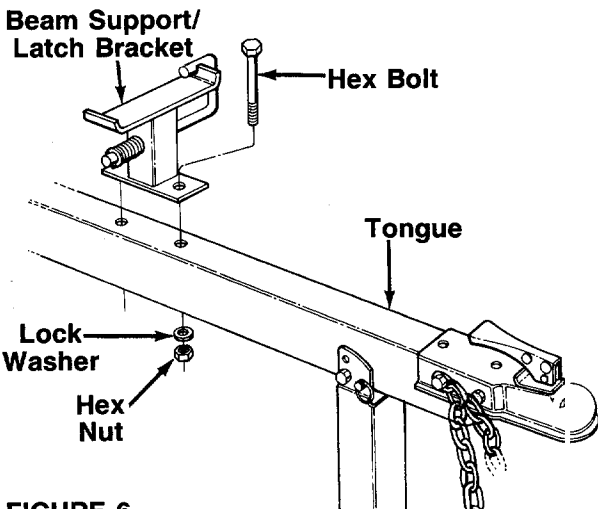

FIGURE 6.
2. With the beam still in the upright position, place the beam support/latch bracket on the tongue as shown in figure 6. Secure with hex bolts, lock washers and hex nuts just removed. Tighten securely.